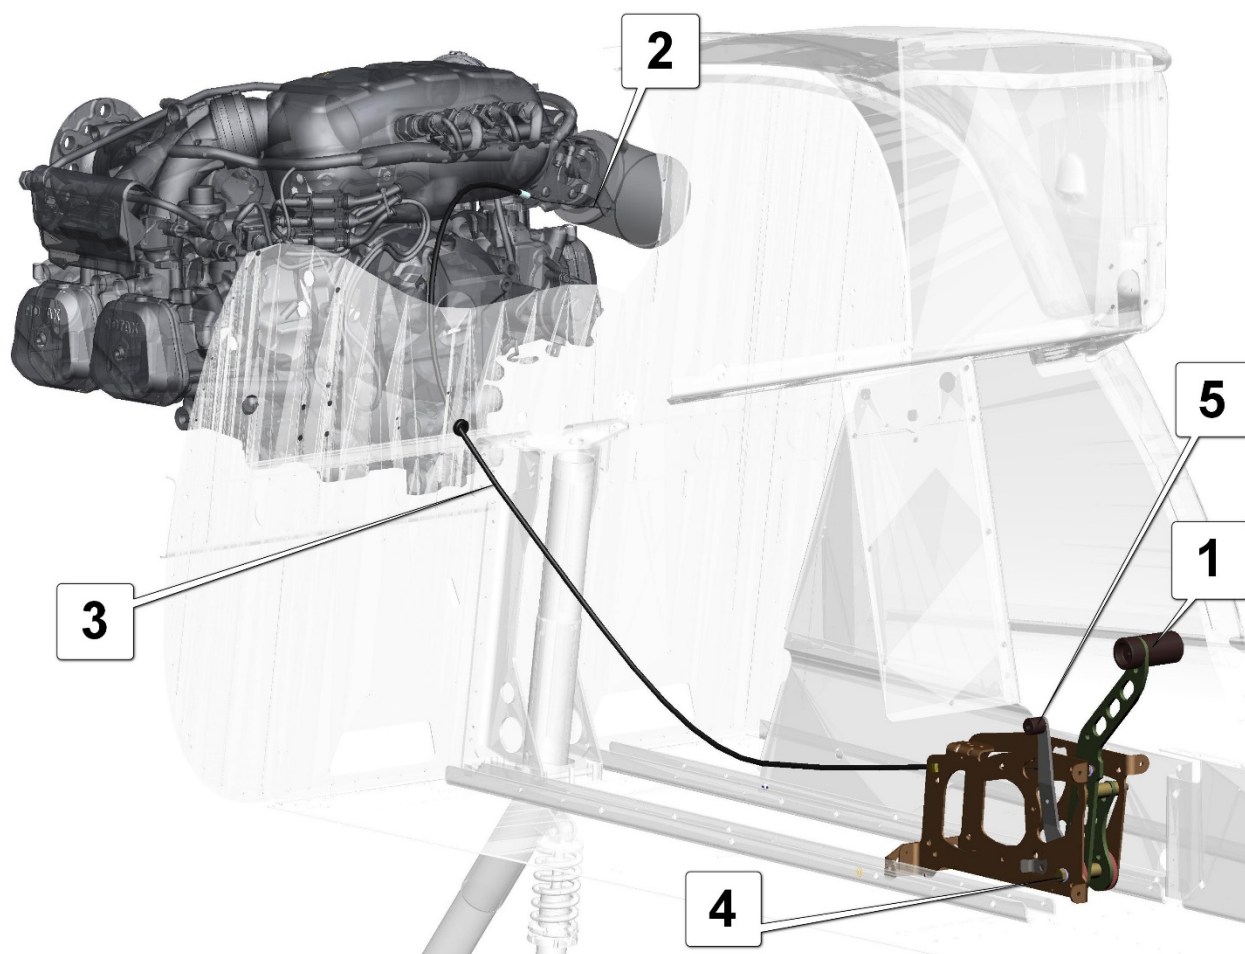

Fig. 9. Engine RPM controls
Rotax-912-iS-Sport engine is equipped with an electronic control unit (ECU) for fuel injection into intake manifolds immediately before the intake valves. The ECU generates signals for fuel injection and mixture ignition according to the programmed algorithms and data from a number of sensors, including the throttle valve position sensor. Engine speed is controlled by moving the throttle valve from closed to fully open position using the throttle lever 1 (**Fig. 9**) connected with the cable to the throttle control arms (2). The cables are passed through the flexible sheaths (3). The throttle lever friction force can be adjusted on the ground by tightening the bolt (4) or in flight – using the friction force adjusting lever (5).